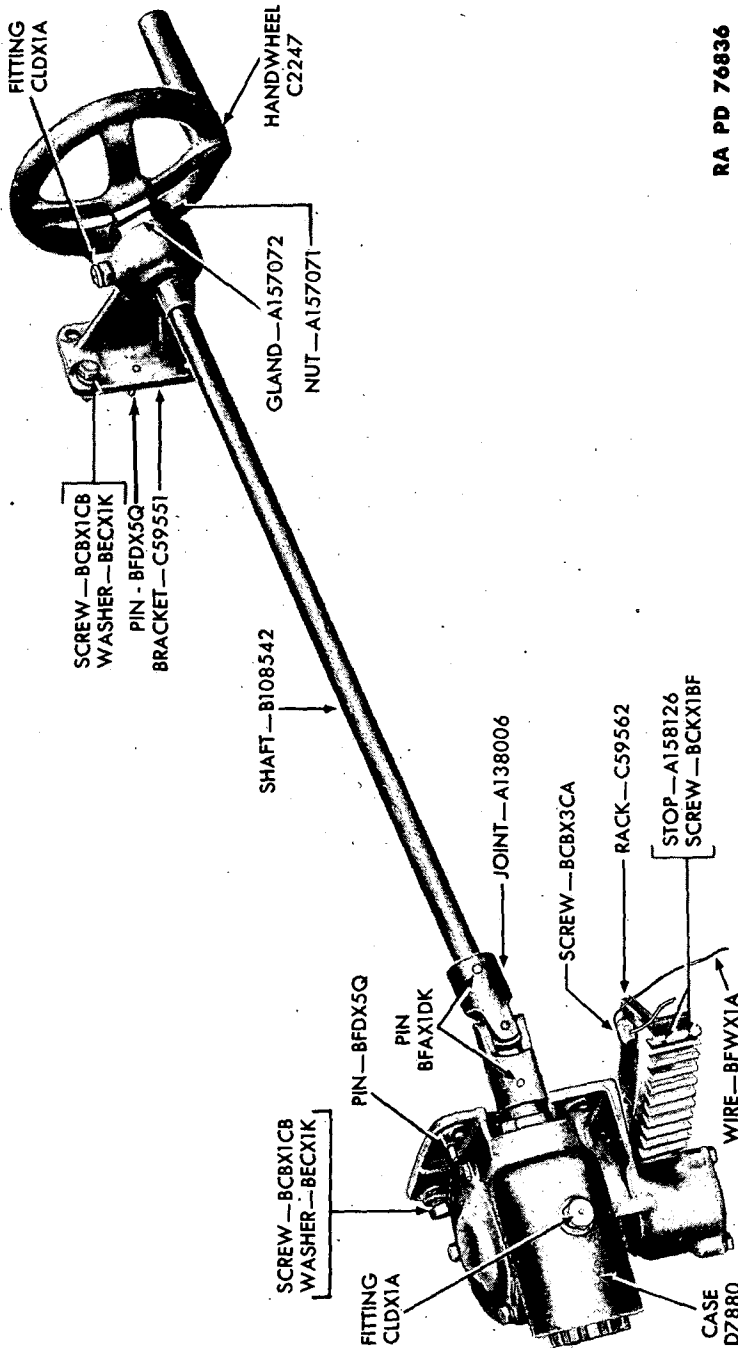
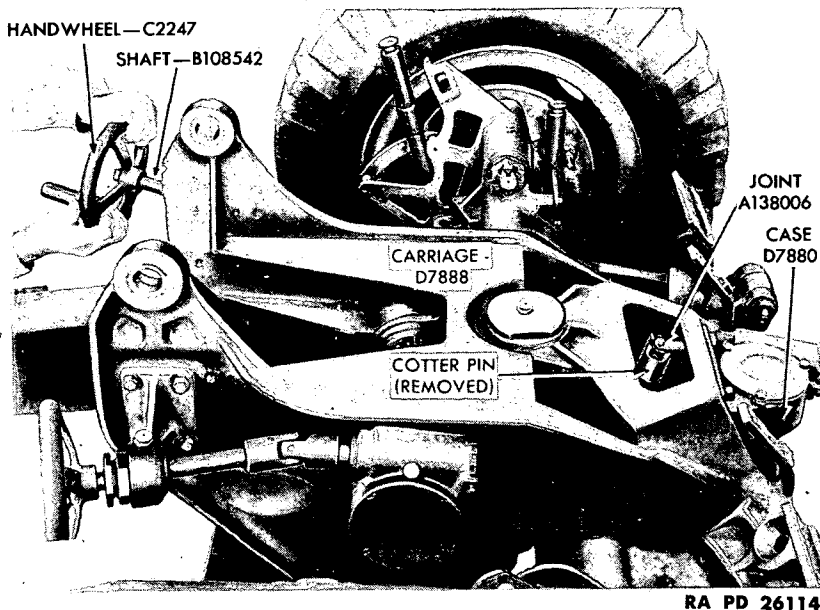
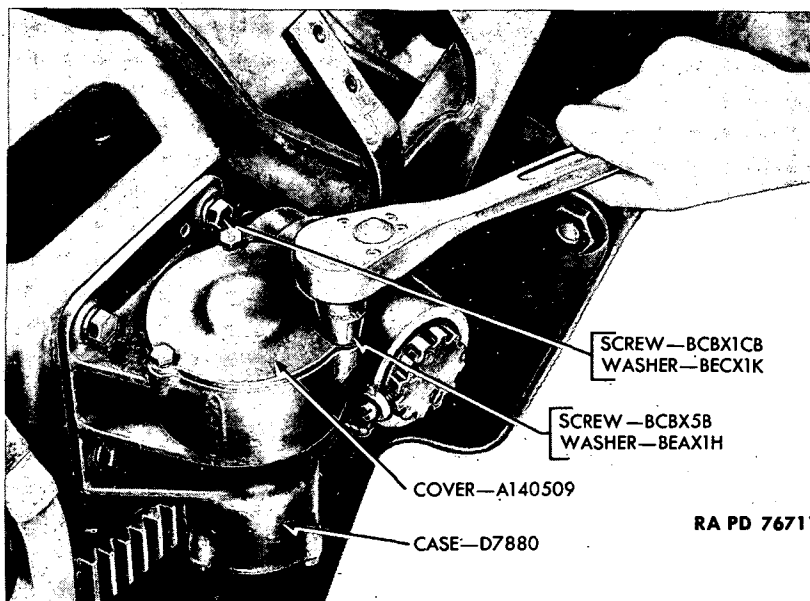

Figure 110—Traversing Mechanism Arrangement
Figure 111—Removing Traversing Handwheel Shaft
Figure 112—Removing Traversing Gear Case Cover
(1) The M3A3 Carriage has pintle traverse. The top carriage is traversed in the desired direction by means of the traversing handwheel located on the left side of the top carriage (figs. 73 and 110). The handwheel is mounted on a shaft that connects with a traversing gear case mounted at the front of the top carriage (fig. 111). In this gear case are a worm, worm wheel, and pinion. The pinion meshes with a traversing rack attached to the front of the bottom carriage (fig. 112). Stops are provided at each end of the traversing rack to limit maximum traverse (fig. 110). The rotating parts are mounted on oil-sealed antifriction bearings.
(2) The entire traversing mechanism can be removed from the top carriage without disturbing any other part of the carriage.
(a) Remove the cotter pin from the traversing handwheel shaft and rear half of flexible joint (fig. 111). Then pull the handwheel and shaft back out through the handwheel shaft bracket. *NOTE: The flexible joint will remain on the traversing worm shaft.*
(b) Remove the traversing gear case cover (large) and gasket from top of traversing gear case by removing the three screws and washers. This cover must be removed first in order to remove the top right screw and washer from traversing gear case and top carriage (fig. 112).
(d) Remove the four screws and washers that fasten the traversing handwheel shaft bracket to the left side of top carriage. Remove traversing handwheel shaft bracket assembly with two dowel pins from top carriage (fig. 110).
(a) Secure the traversing gear case assembly to the front of top carriage with four screws, lock washers, and two dowel pins (fig. 112).
(d) Insert the end of the traversing handwheel shaft into rear section of flexible joint and secure with cotter pin (fig. 111).